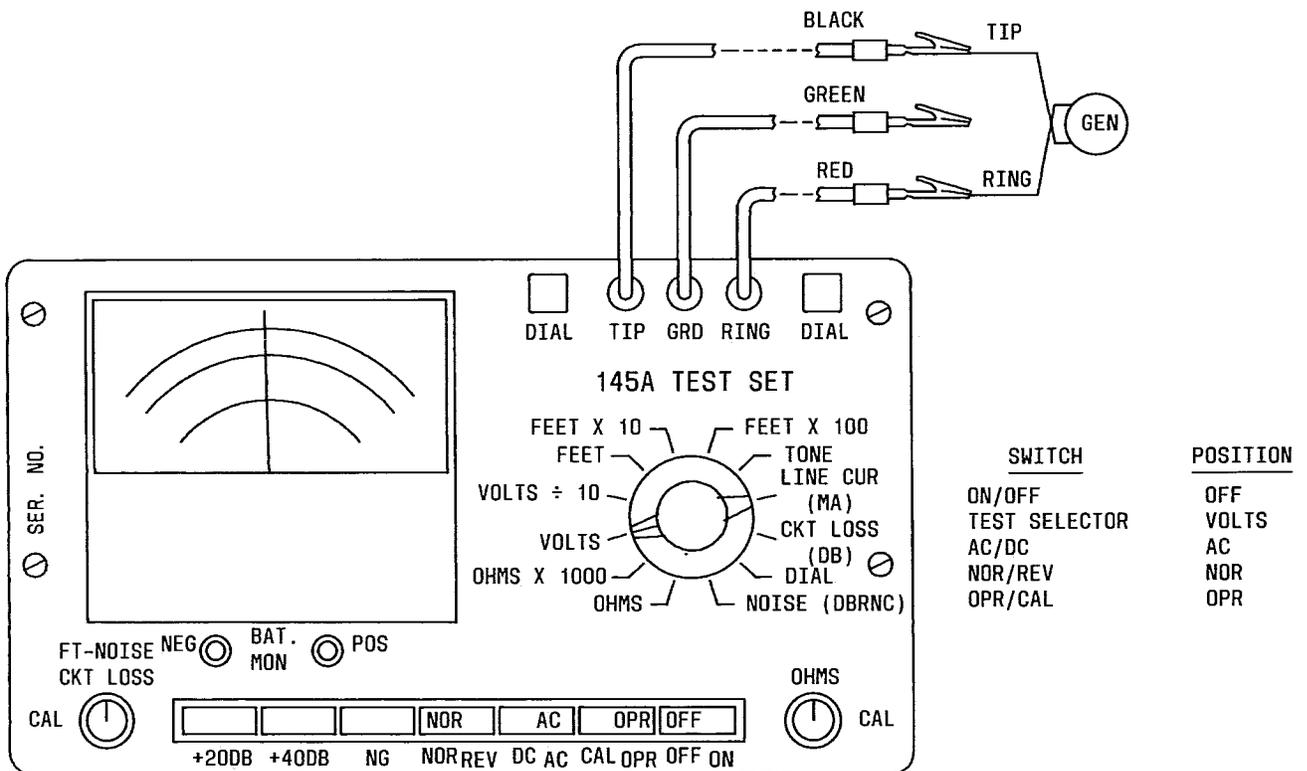

Fig. 10—AC Voltage Testing
4.06 *AC Voltage Testing (Fig. 10):* This test *should not* be made if it is suspected that the ac voltage of the circuit exceeds 200 Vac. The following steps must be used when making this test: